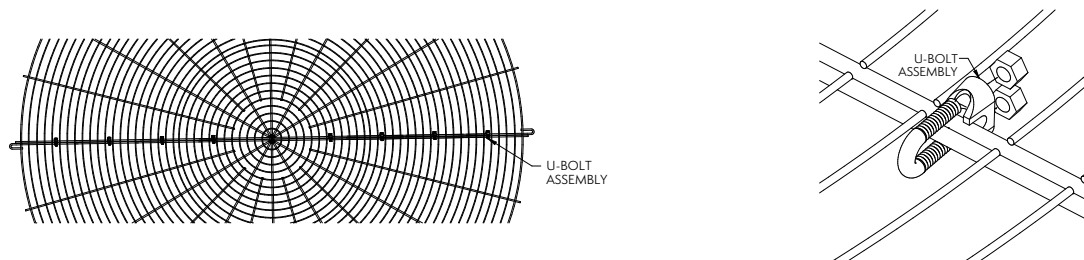

Figure 25 —U-Bolt Assembly Spacing & Arrangement
3. Join the two screen halves with "U" bolts, as shown in **Figure 25**.